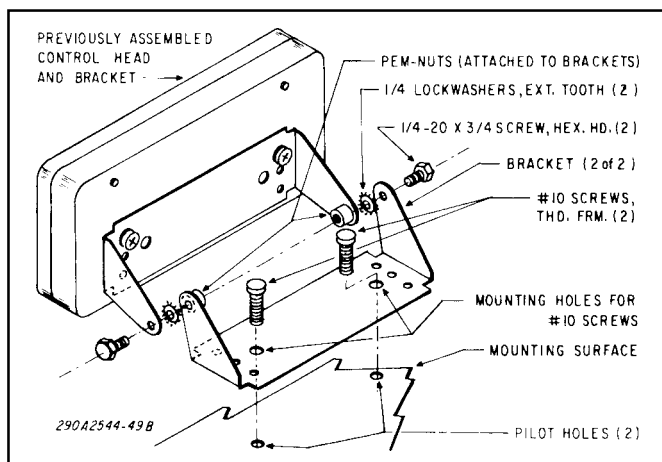

Figure 3-5. Control Head and Bracket Installation.
A. Assemble a bracket to the control head using the 6-32 x 1/4 screws and #6 lockwashers. Assemble the other bracket to the control head/bracket assembly using the 1/4-20 x 3/4 hex head screws and 1/4" lockwashers as shown in figure 3-5.
D. Secure the mounting bracket to the mounting surface with the #10 thread-forming screws as shown in figure 3-5.